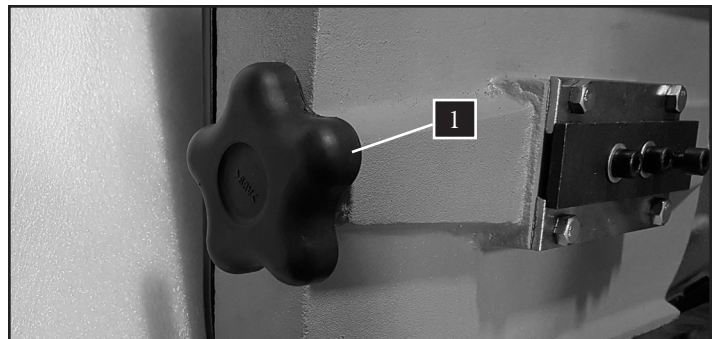
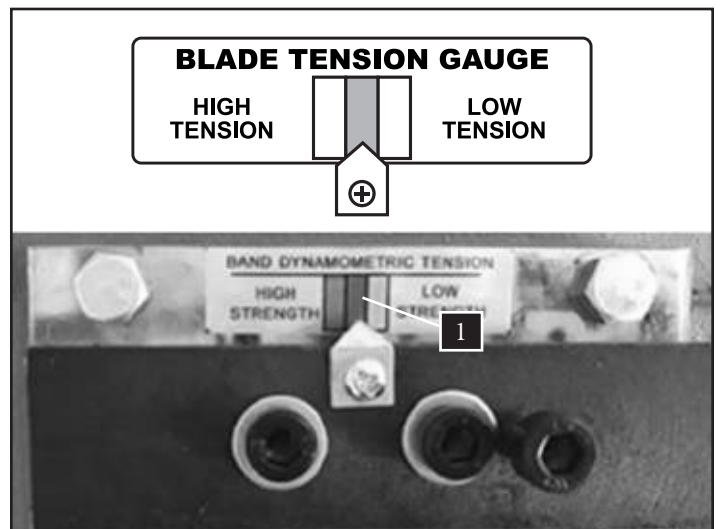

Fig. 28
Fig. 30
6. Loosen the blade tension by turning the blade tension knob (Fig. 28 - 1) counterclockwise.
10. Turn the blade tension knob (Fig. 28 - 1) clockwise to tension the blade just enough so that the blade will NOT slip on the wheels upon startup. Do not over tension the blade.
3. Refer to the blade tension gauge (Fig. 30) for proper tension of the blade. Adjust the blade tension using the blade tension knob on the left of the saw (Fig. 28 - 1). Turn the blade tension knob clockwise to add tension; turn the knob counterclockwise to reduce tension, until the blade tension gauge arrow points to the green box (Fig. 30 - 1) on the center of the gauge.